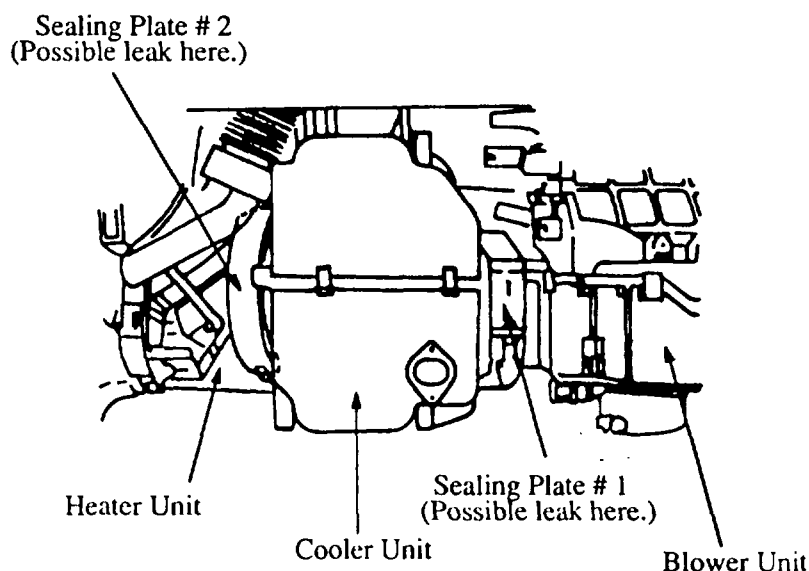

Figure 1: A/C System
1. Remove the glove box. If the vehicle is equipped with A/C, see **Figure 1**. If the vehicle has no A/C, refer to **Figure 2**.
1. Make sure the 2 hooks of the sealing plate # 1 (Figure 1) attach properly on the blower case. If not, adjust the hook and lock.
1. Make sure the 2 hooks of the sealing plate # 2 (Figure 1) attach properly on the heater housing. Inspect the upper hook closely because it is more difficult to attach. If necessary, readjust the hook and lock.